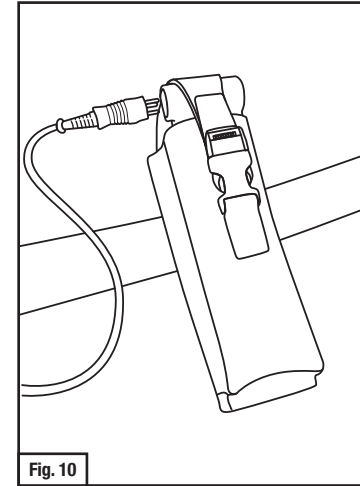

Fig. 10
8. Connect the GVP-610 power cord to the TR-659 adapter (Fig. 10). Plug socket end of the power cord into the prong receptacle on the front of the GVP-100 motor/blower. To power the motor/blower on, hold the power button on the adapter down for 1/2 second. When powered on, the indicator light on the TR-659 should blink for approximately one second and then turn off.